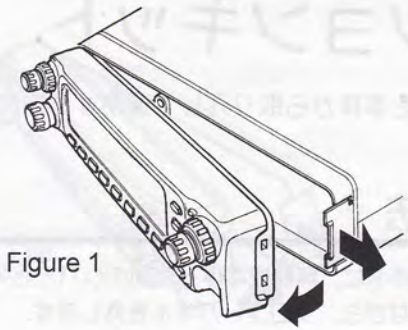

Figure 1
1. Disconnect the DC power cable, slightly pry open the latch on the right side of the transceiver and then slide the panel outward and away from the transceiver, as shown in Figure 1.